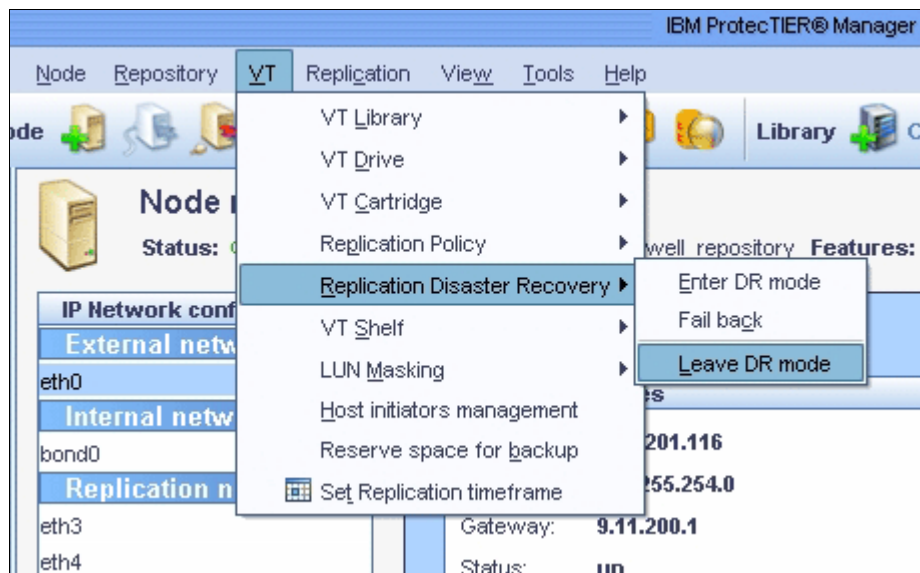

Figure 11-27 Leaving ProtecTIER DR mode
9. The user is expected to delete the policy after the failback objects are replicated (Figure 11-27).